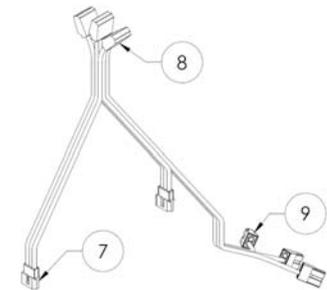

FIGURE 2
- A. Using wire connectors on harness (see figure 2); connect white supply wire to white wire 2-pin connector (9) (*Note: slide wire protective sleeving away from connector to see wire color*); insert the stripped wire end into the open pin-hole location of the connector (9). Connect black hot supply wire to black wire 2-pin connector (9); insert the stripped wire end into the open pin-hole location of the connector. Follow the same instructions to connect the ground wire. **Do not mix wires.** Pull on each wire lead to make sure the connections are secure. Make certain no bare wires are exposed outside of wire connectors.
- A. Using wire connectors (8) on harness, insert white wire from ballast to white wire 4-pin connector (8); insert the stripped wire end into the open pin-hole location of the connector (8). Connect black wire from ballast to black wire 4-pin connector (8); insert the stripped wire end into the open pin-hole location of the connector (8). Follow the same instructions to connect the ground wire. **Do not mix wires.** Pull on each wire lead to make sure the connections are secure. Make certain no bare wires are exposed outside of wire connectors.
- A. Attach ceiling-pan (1) to junction box (not provided) through keyhole slots with #8-32 x 1-1/8" screws (4 - provided).